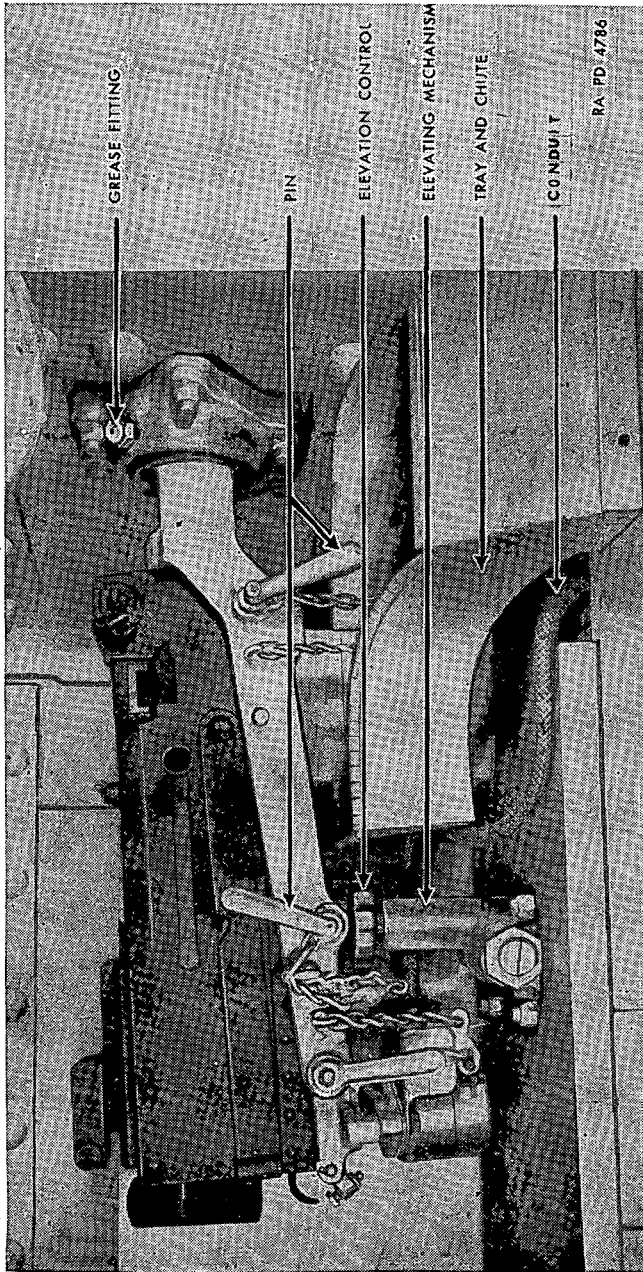

FIGURE 18.—Machine-gun mount, left sponson.
d. *Sponson mounts.*—A ball mount of the swivel type, mounting a caliber .30 machine gun, is located in each sponson (figs. 18 and 19). Elevation is adjusted manually and traverse is accomplished by the steering of the vehicle. The sponson guns are fired electrically by the driver by compressing the switches near the top of each steering lever. Each switch connects with and fires its respective gun. The guns may also be fired manually by conventional triggers. Lubricate the ball mounts as shown on lubrication chart (fig. 13).